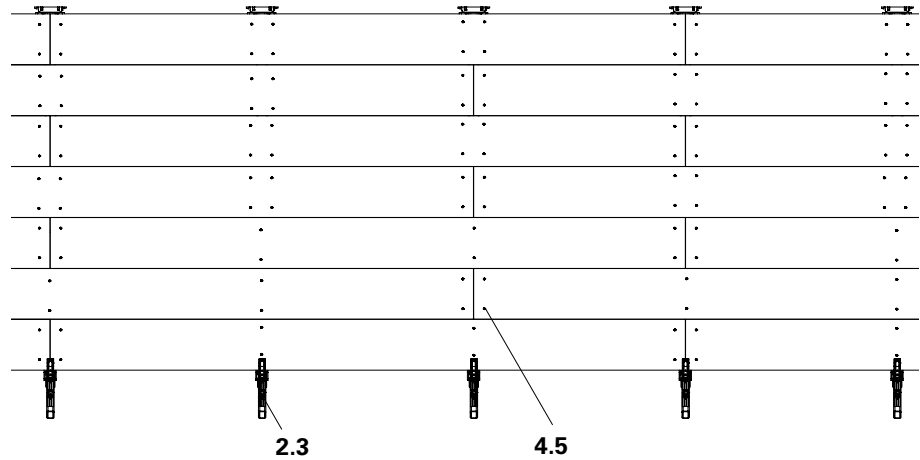

Fig. A6.01
- Fix planks to each platform beam using wire nails or wood screws (4.5). (Fig. A6.01)